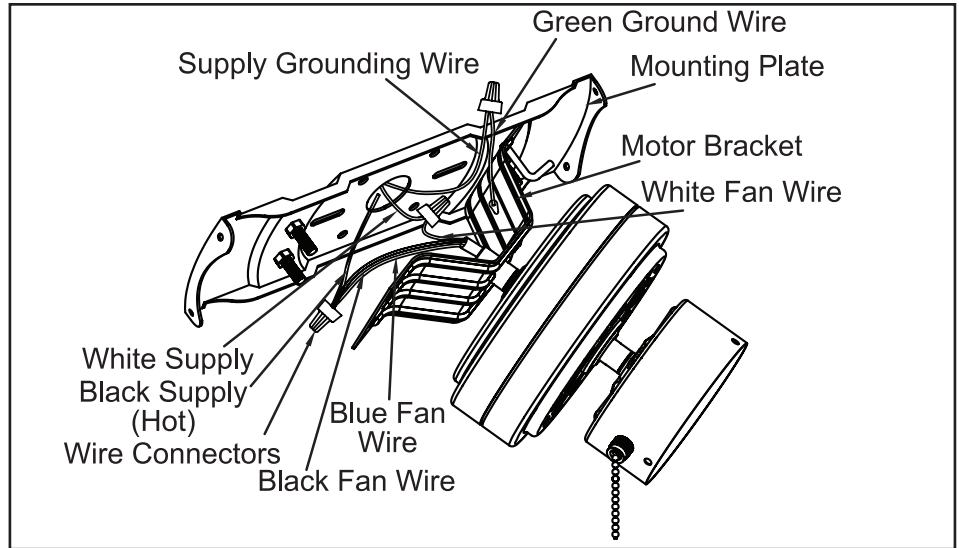

Figure 7
1. Connect the ground conductor of the 120v supply (this may be a bare wire or a wire with green colored insulation) to the green ground leads from the motor bracket and the mounting plate of the fan (Figure 7).
2. Connect the fan motor white wire to the supply white (neutral) wire using a wire nut supplied (Figure 7).
3. Connect the fan motor black and blue wires to the supply black (hot) wire using a wire nut supplied (Figure 7).